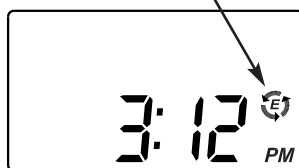

FIG. 26
3. Press the SELECT button six times, to return to the normal run display (See Figure 26).